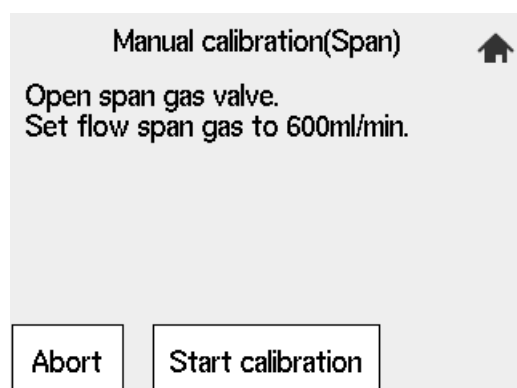

Figure 6.18 Span gas Flow Display
- (3) After the message of Figure 6.18 appears, feed the span gas to follow the message. Open the span gas flow setting valve on the flow setting unit and adjust the flow to 600 ± 60 ml / min. For the valve, loosen the locknut and slowly turn the valve shaft counterclockwise. To check the flow rate, monitor the calibration gas flowmeter.